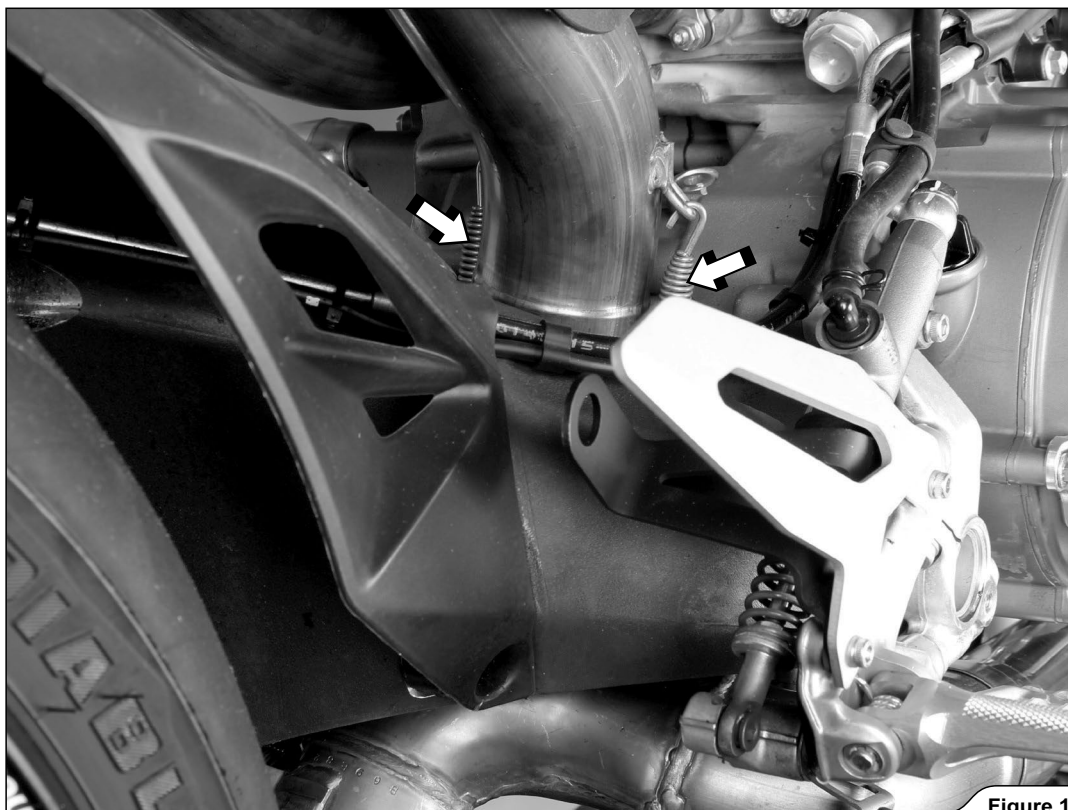

Figure 17
7. Unhook the marked rear header's springs and carefully remove the collector off the motorcycle (Figure 17).